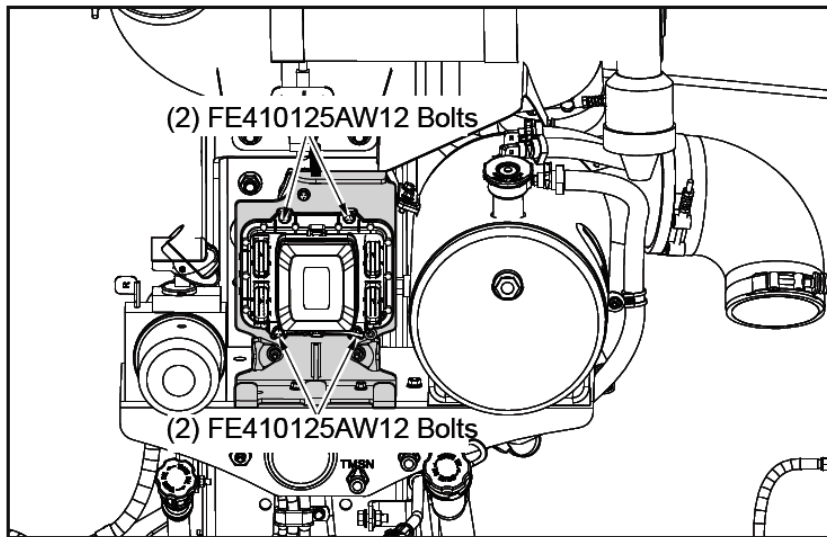

Figure 7
8. Using four FE410125AW12 Bolts, reinstall the FB3 Fuse Box (see *Figure 7*)